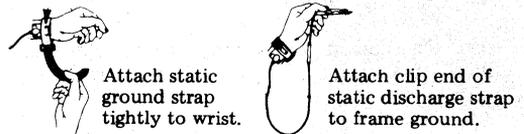

Fig. 2
*Warning: To avoid possible internal damage to circuitry, wear a 346392 static discharge strap connected to ground to allow static discharge before handling circuit cards for removal or replacement. Avoid touching circuit lands or components as much as possible (Fig. 2).*